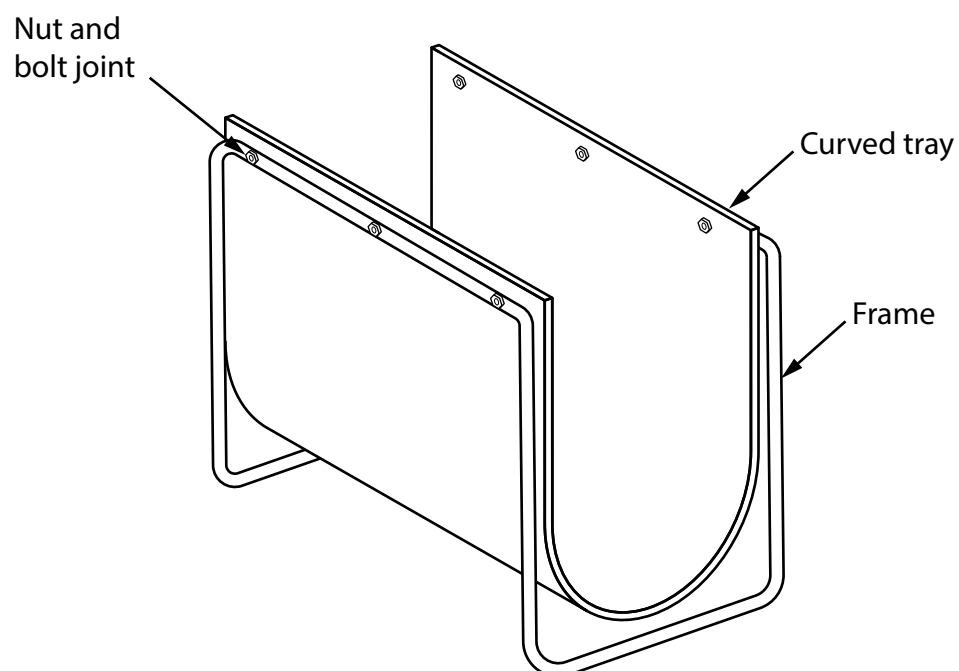

Figure 14
7 Figure 14 shows a magazine rack.
- (a) Name a reinforcement technique that could be used to stiffen the frame of the magazine rack shown in Figure 14.